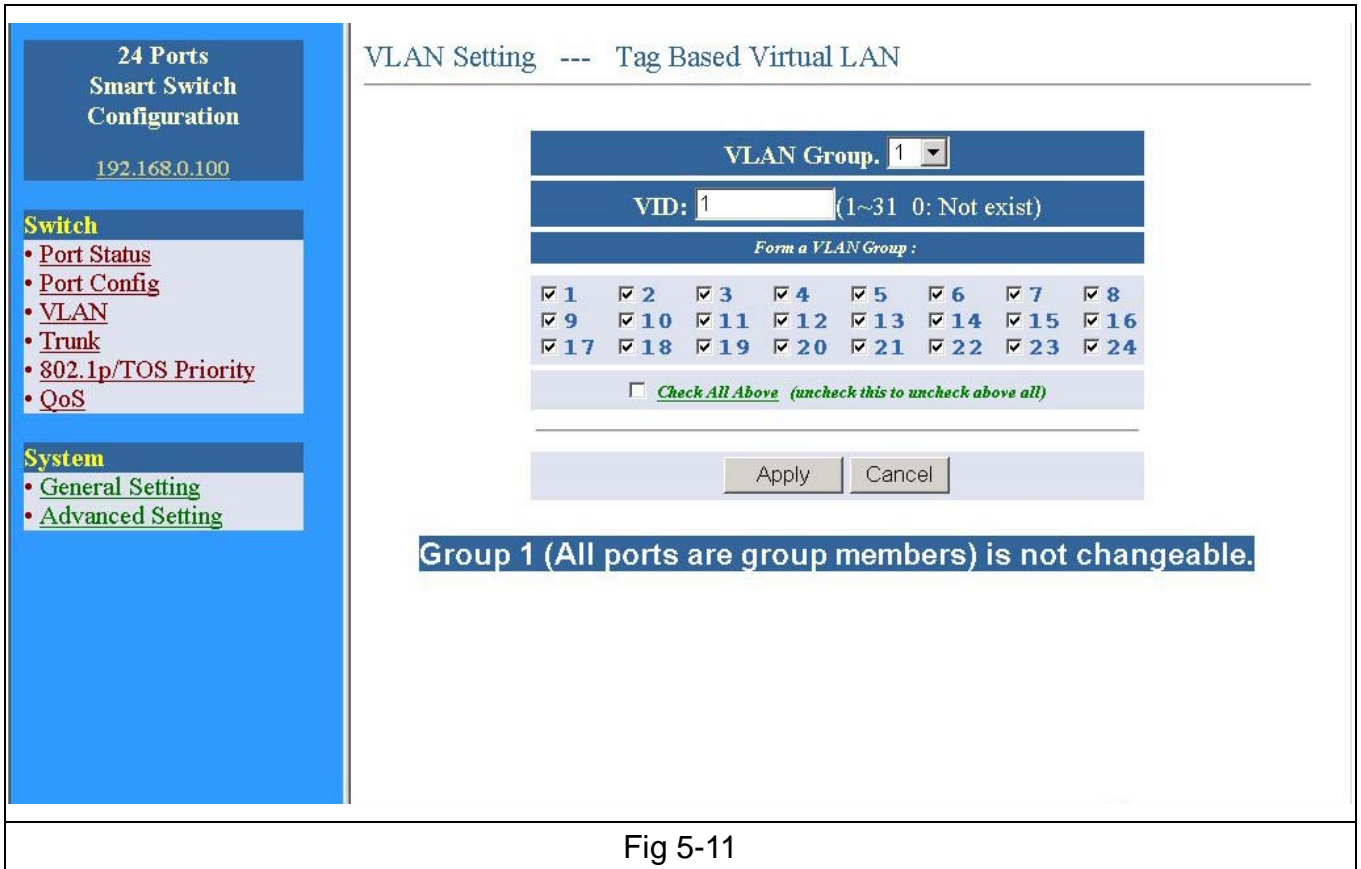

Fig 5-11
1. Select VLAN Group number. It supports up to 24 VLAN Groups. (Fig 5-11).